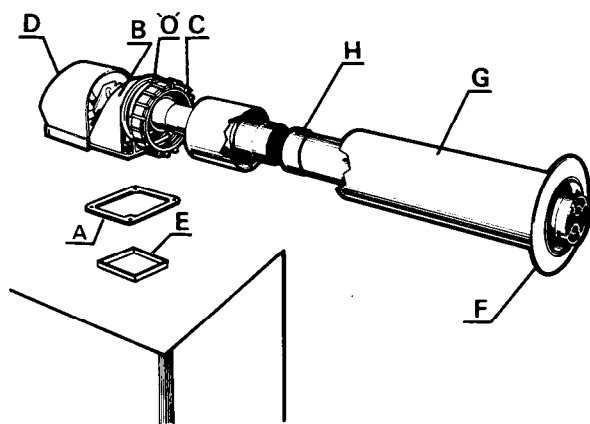
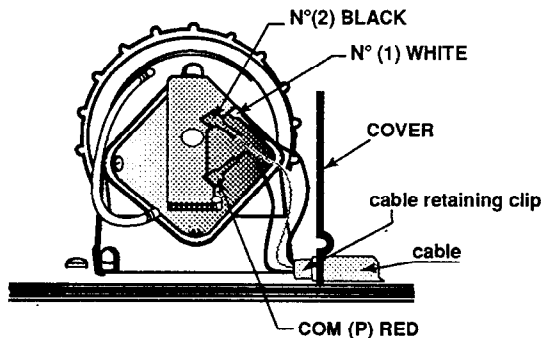

Fig. 25
Fig. 26
- d) Peel off protective paper from adhesive side of cork gasket (A) place on mating side of flue turret (B) lining up with four clearance holes, press together.
- e) Assemble second part of flue duct (H), push fit.
- f) Slide locking ring (C) and 'O' ring over plastic air duct.
- g) Slide air duct over flue duct, engage end of flue duct into terminal and locate air duct into turret (B).
- h) Slide 'O' ring along air duct (C), to contact with the face of the turret (B). Locate lugs on locking ring (C) between lugs on flue turret (B). Push together and turn to lock.
- j) Position square channelled rubber gasket (E) on the flue hood outlet of the boiler, channel facing downwards.
- k) Pass the flue assembly through the wall and seat turret (B), onto the flue outlet, secure with 4 screws provided.
- l) Fit wall plate (F) provided with mastic sealing ring over air duct to structure.
- a) Do not fit plastic turret cover 'D' until electrical connections to the pressure switch have been made (see fig.26).
- b) Push spade terminals onto tags COM (P) No (1) and No (2)
- c) Fit turret cover (D) (fig.25) ensuring that both the air tube and cables are not trapped. Ensure that the cable retaining clip is positioned inside of the cover as shown. (see fig. 26).